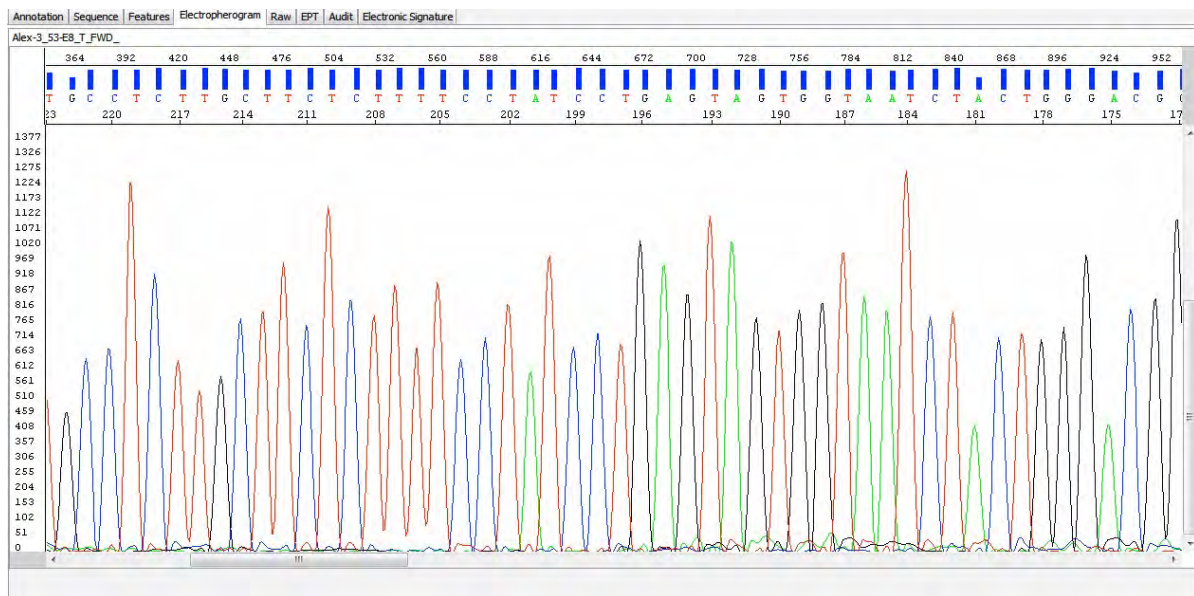

Figure 8. Example of electropherogram showing data analyzed with the KB Basecaller.
- Analyzed sample data are displayed as an electropherogram, a sequence of peaks in four colors. Each color represents the base called for that peak (Figure 8).